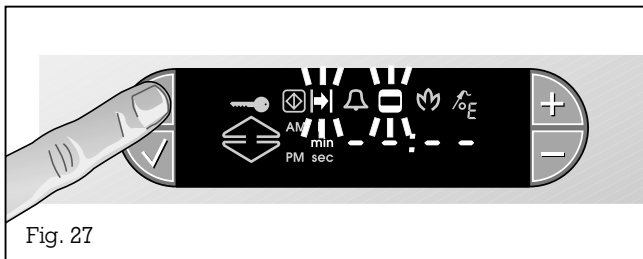

Fig. 27
- Press the ☹️ (Timer) key twice. The ⏸️ (End) and ⏱️ (Cooking time) symbols flash (Fig. 27).